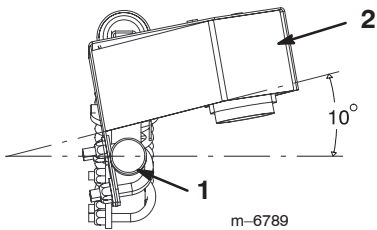

Figure 2
4. Rotate the sensor up so that it is approximately 10 degrees off parallel with the ground, then tighten the locknuts on the U-bolts to secure the sensor (Fig. 2).